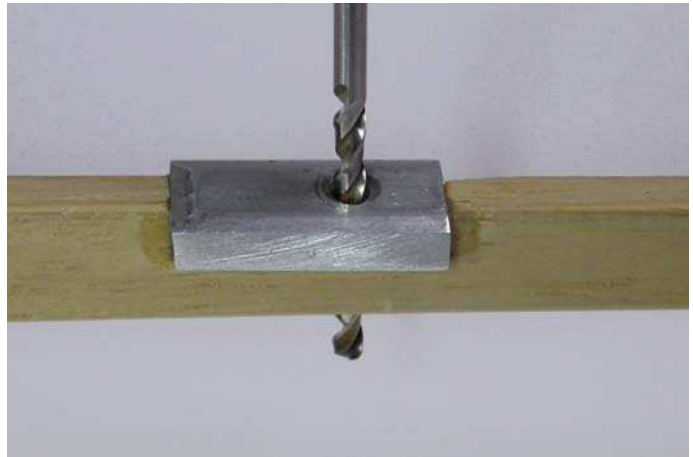

Fig.74: Passing hole for the hook.
- drill 3 mm diameter hole through the shaped strip and the hook support hole as shown in figure 74 (but, be careful: don't waste the thread).